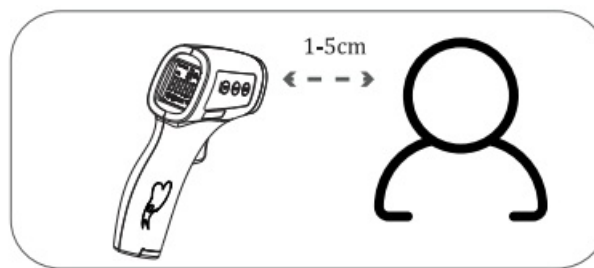

Figure 2-Measuring position and distance
- The thermometer is aligned with the middle of the forehead to measure body temperature (between the eyebrows above) and keep the vertical distance, press the On/Scan button, temperature display immediately, see figure 2.
Incorrect test position.	See figure 2 Measuring position and distance.